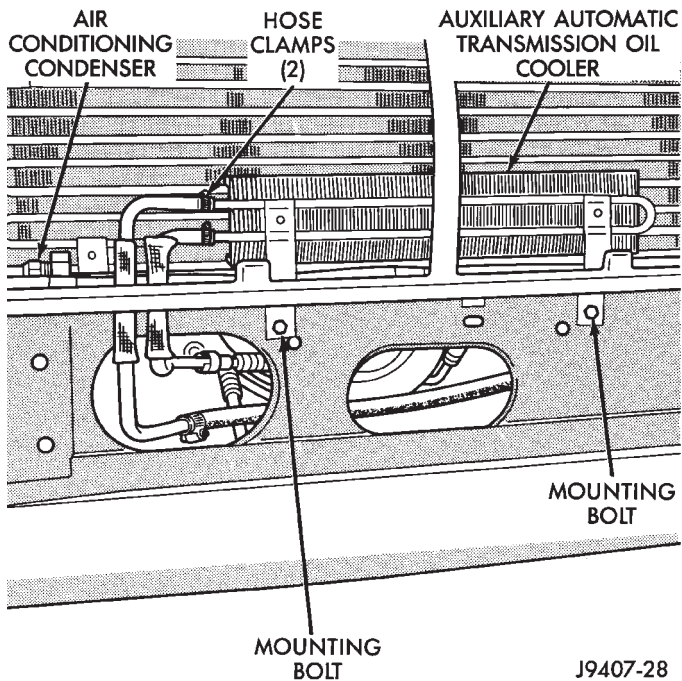

Fig. 45 Auxiliary Air-To-Oil Cooler—XJ Models—4.0L Engine
- (1) Remove the grill mounting screws and remove the grill. Refer to Group 23, Body for procedures.
- (2) Place a drain pan below the transmission oil cooler.
- (3) Remove the two hose clamps at oil cooler inlet and outlet tubes (Figs. 45 or 46).
- (4) Remove the two oil cooler mounting bolts (Figs. 45 or 46).
- (5) Remove the oil cooler from vehicle.
- (6) Reverse the preceding operation for installation. Tighten the two clamps 2 N·m (15 in. lbs.) torque. Tighten mounting bolts to 8 N·m (72 in. lbs.) torque.